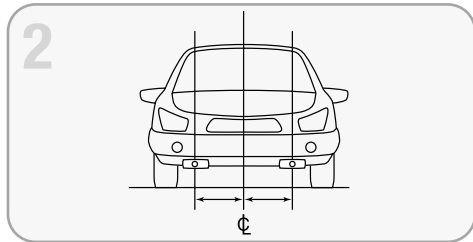

FIGURE 2
- The Auxiliary Low Beams must be equal distance from the center of the vehicle and mounted at or below the centerline of the headlights (FIGURE 2).